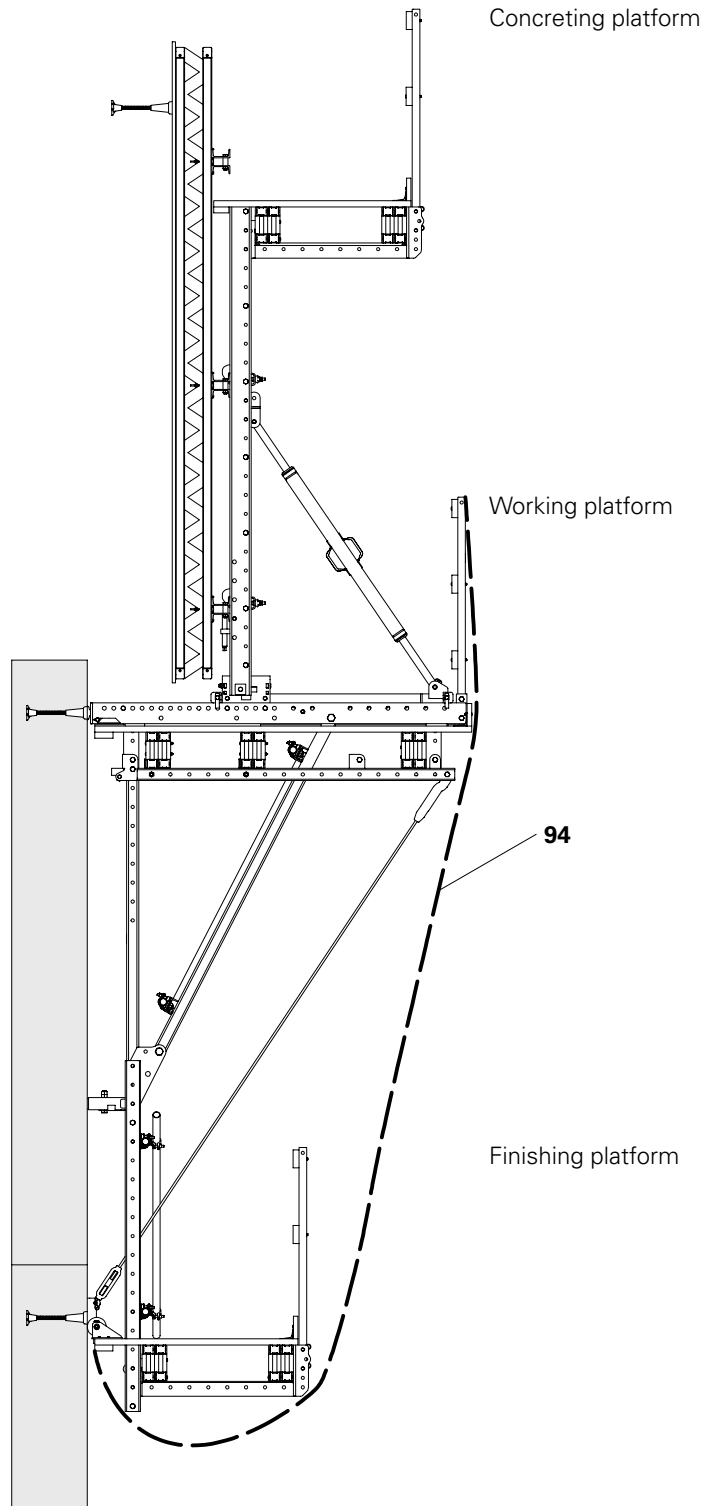

Fig. A1.01
- During working operations, we recommend a maximum distance of 20 mm between neighbouring platforms. Cover larger gaps with suitable and securely fitted materials. Alternative: use safety netting (94) with mesh size ≤ 20 mm.
- (Fig. A1.01)